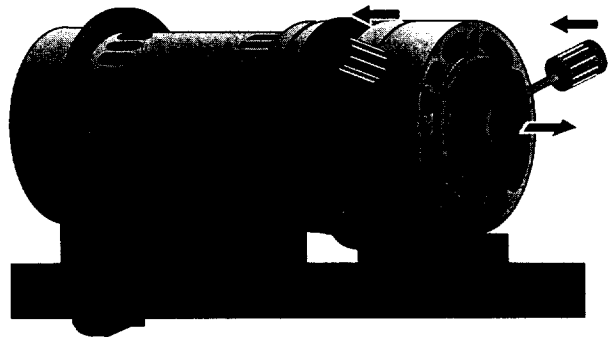

Figure 21
9. The impellers are keyed to the shaft and do not unscrew. Insert two screw drivers on opposite sides under the exposed impeller and pry the impeller off (Figure 21) to remove it.